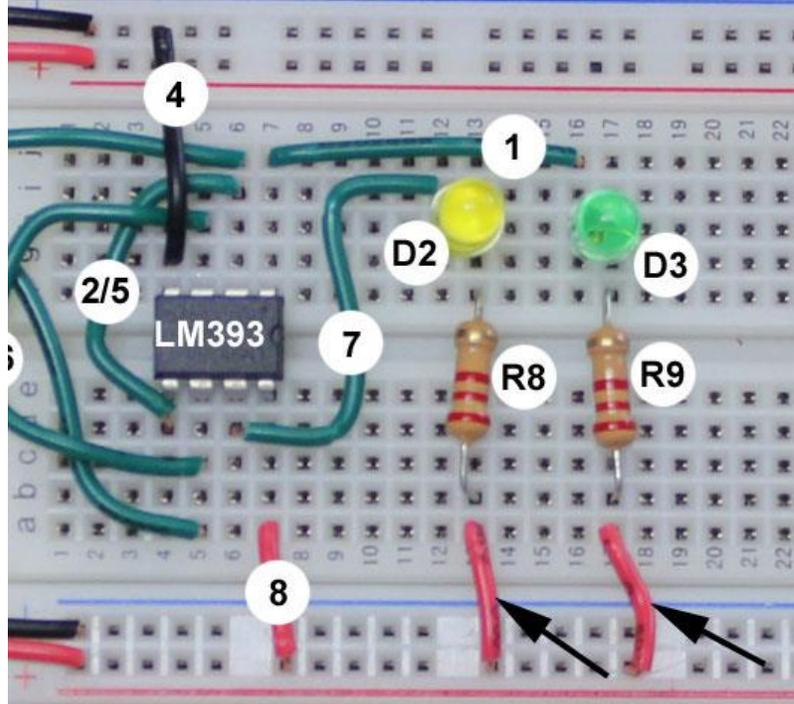

Figure 5
1. Before you begin wiring the transistors, you must remove some components from your breadboard. Refer to Figure 5. Remove the wires labeled 1 and 7. Also remove the two red wires marked with black arrows. Remove resistors R8 and R9 and LEDs D2 and D3.